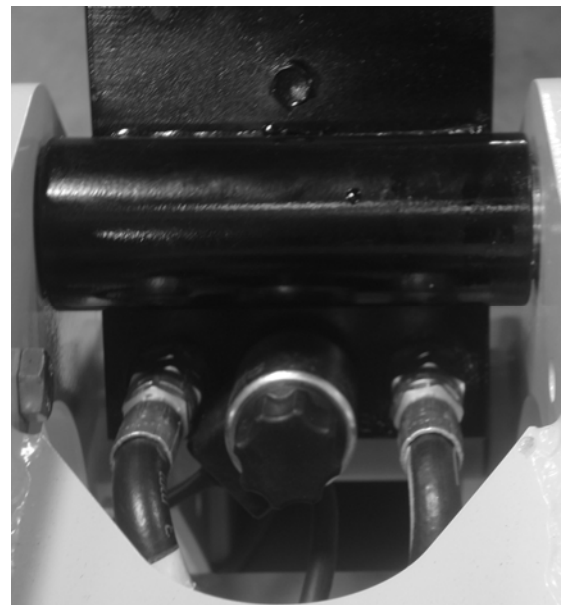

Figure 4-4. Cylinder Valve Removal
- Unplug the cylinder valve solenoid. Refer to Figure 4-4.